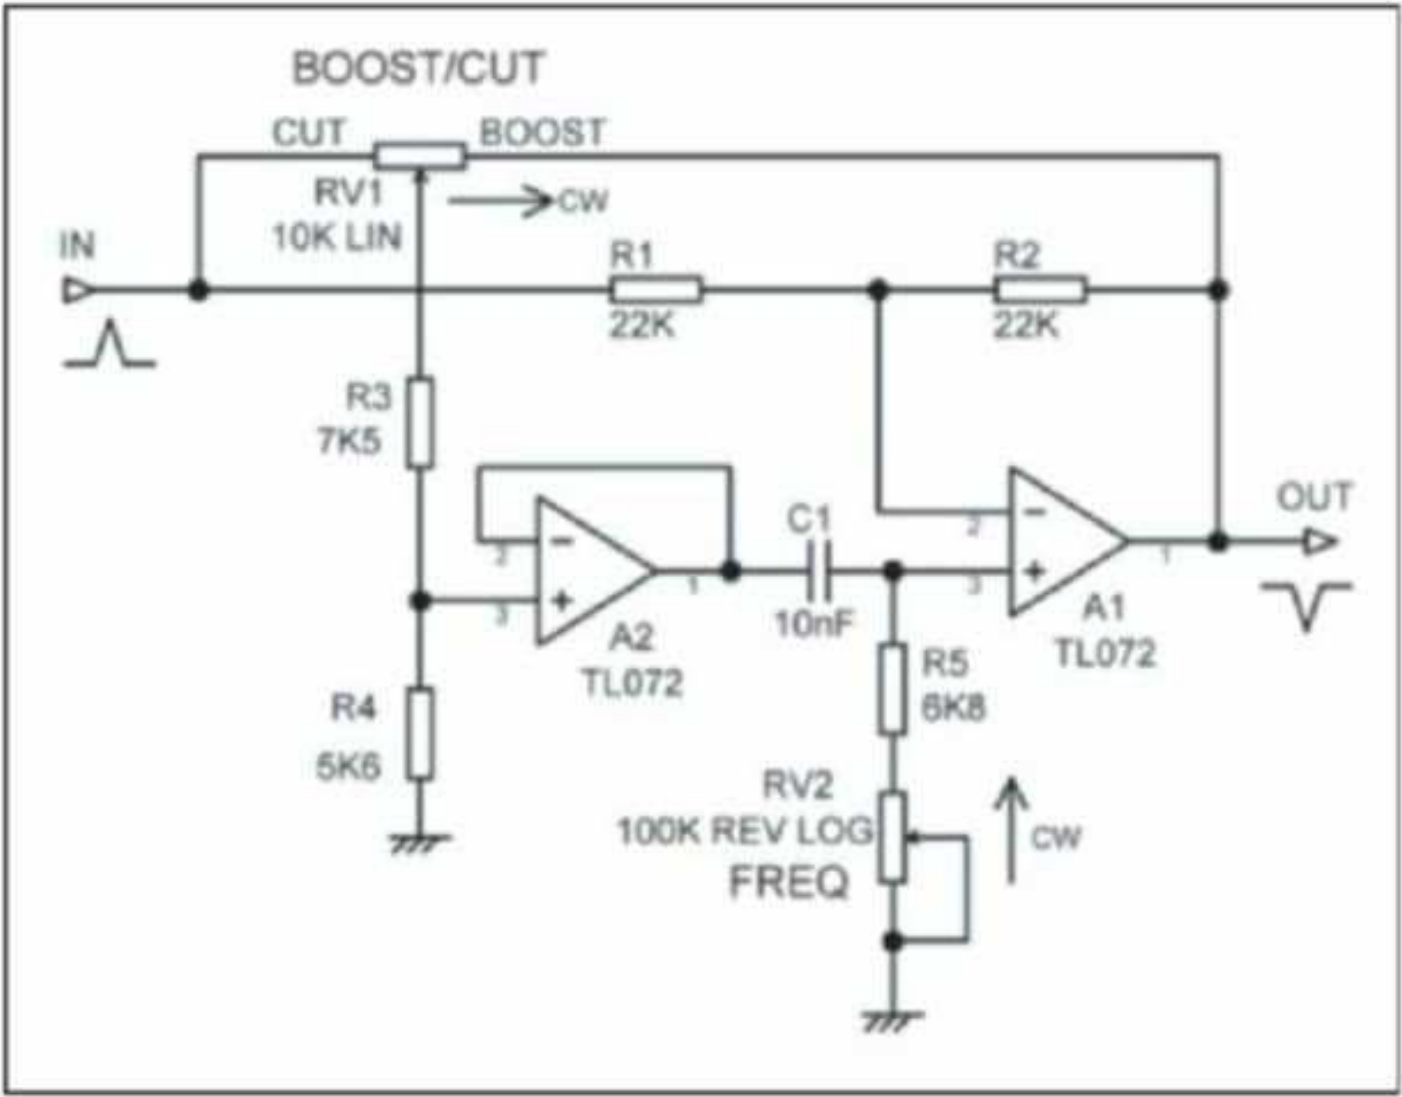

Figure 1: The variable-frequency high-frequency shelving circuit as in SSAD3 p412. The ± 1 dB break frequency range is 250Hz to 4kHz.
A typical variable frequency high-frequency shelving equalizer is shown in **Figure 1**. R1 and R2 set the basic gain to -1 and ensure that there is DC feedback to fix the operating conditions. When the wiper of RV1 is at the output end, positive feedback partially cancels the negative feedback through R2 and the gain increases. When the wiper of RV1 is at the input end, the signal fed through the frequency-sensitive sidechain R3, R4, A2, etc., causes partial cancellation of the input signal, so gain is reduced. The signal from pot RV1 is scaled by divider R3, R4, which set maximum cut/boost. This signal is buffered by voltage-follower A2 and fed to a high-pass RC network comprising C1 and (R5 + RV2). Only high frequencies are passed, so the equalizer has no effect at low frequency.
Table 1: Noise measurements for the Figure 1 circuit with TL072 op-amps
Table 2: Noise measurements for the Figure 1 circuit with NE5532 op-amps
Table 3: Noise measurements for the Figure 1 circuit with NE5532 op-amps and reduced values of R1 and R2
Step 3: The stage in Figure 1 gives $\pm 15\text{dB}$ of boost/cut, which is standard for mixing consoles. It is however a bit excessive for hi-fi use, so the range was reduced to $\pm 12\text{dB}$ by reducing R4 to 4k7. That affects the noise, so it is re-measured in **Table 4**.